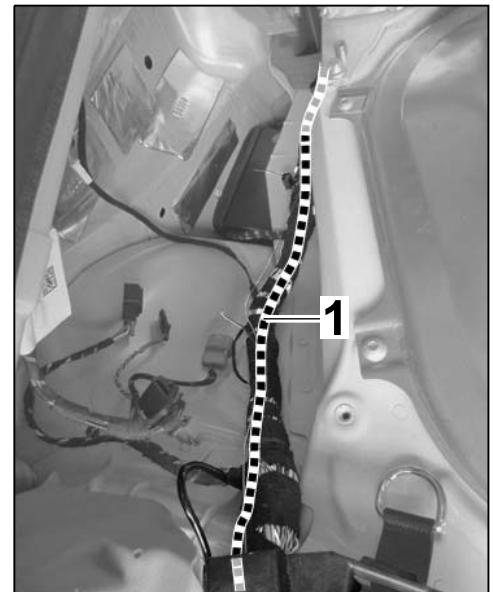

Figure 14
- 2.4.2 Route line (BK/YE) ⇒ *Figure 14 -1-* along the standard main wire harness for convertible-top compartment at the left.